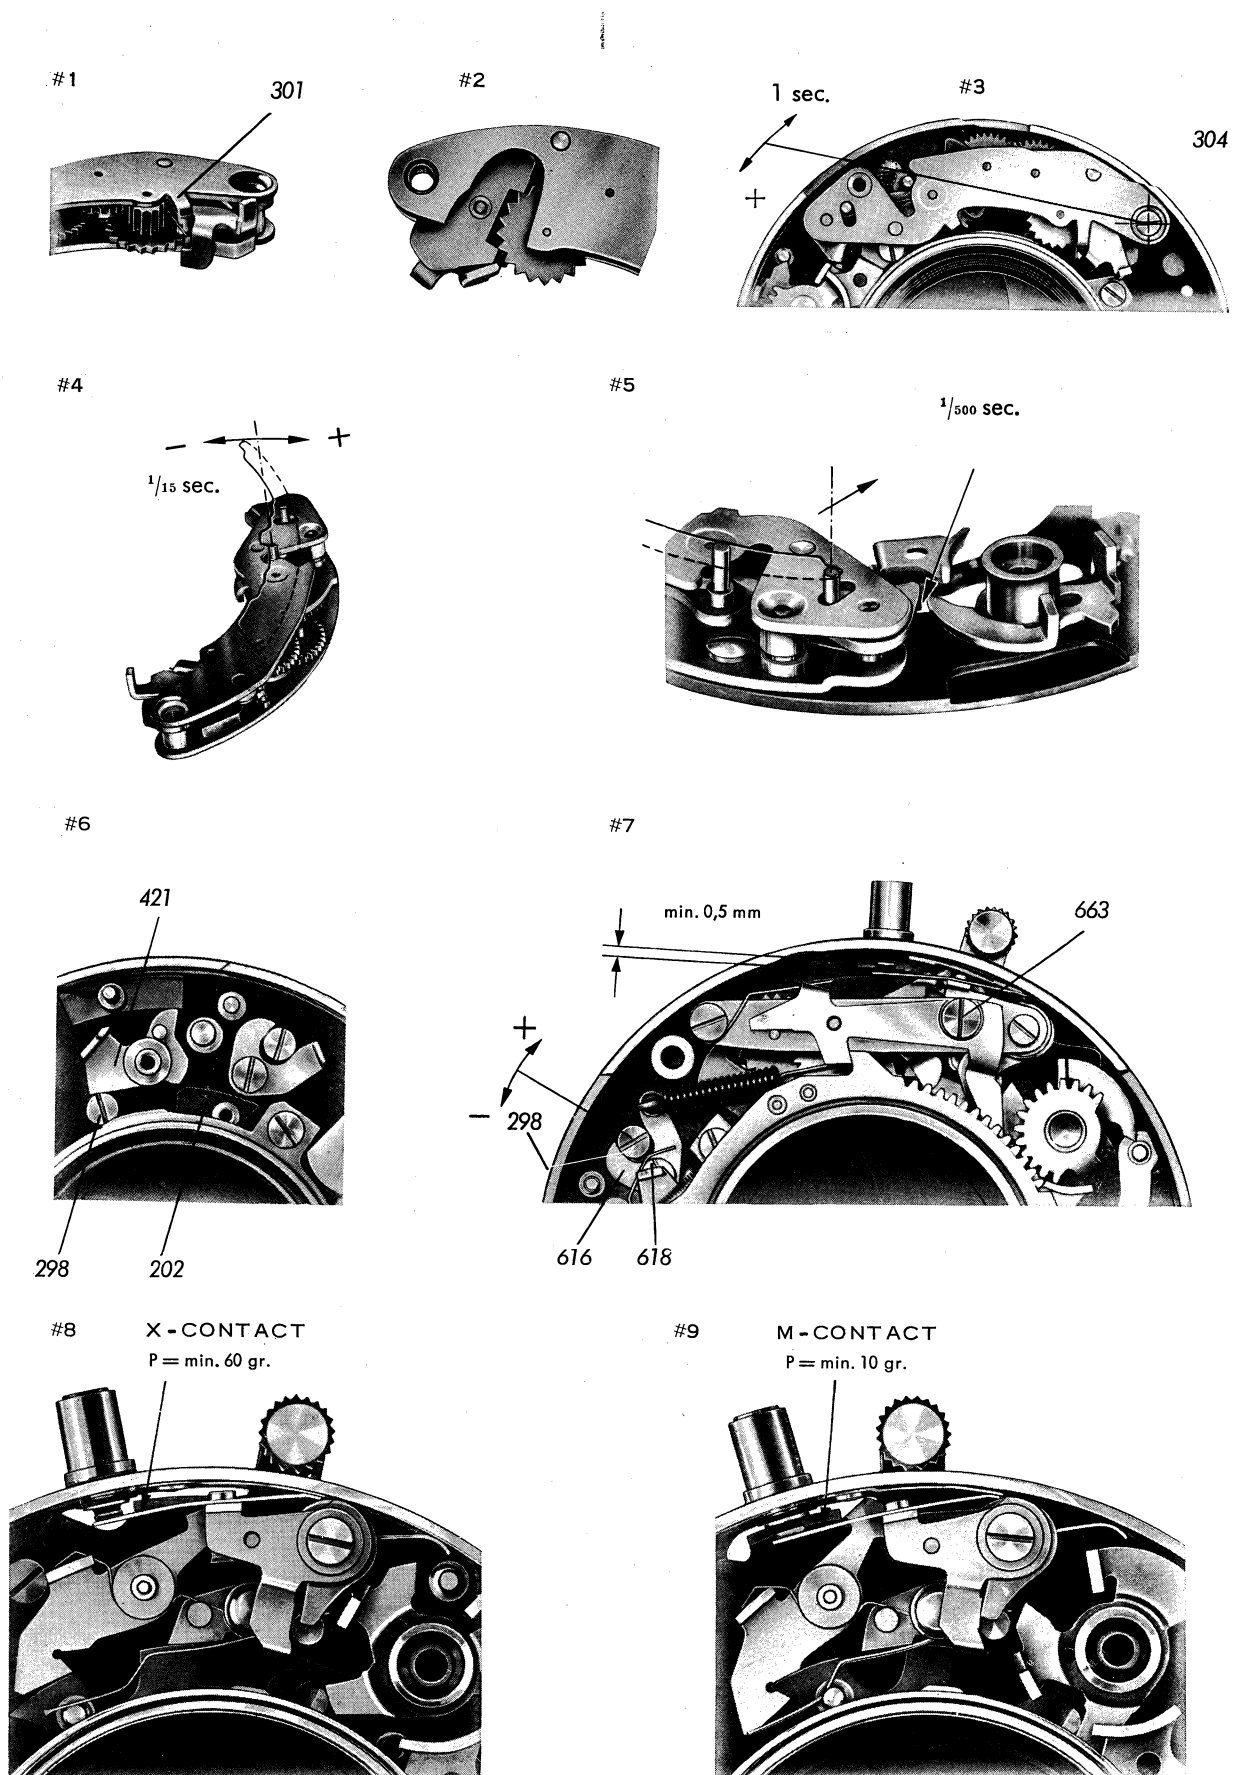

Figure 5-3
- E. ESCAPEMENT 300: The depth of engagement of the escapement lever is factory adjusted so with the lever plate 319 resting against adjusting lug of plate 301, it amounts to $1/2$ to $1/3$ of the height of the tooth. See Figure 5-3, #1 and #2.
1. 1-Second (See Figure 5-3, #3). Back off the two securing screws and pivot the escapement about screw 304 on the lever side (toward the mounting tube for increased exposure time, or toward the periphery of the case for shorter exposure time). Firmly tighten the two securing screws upon completion of adjustment.
2. $1/15$ Second (See Figure 5-3, #4). With cam ring 552 in position, bend the detent pin as required (toward tubular mount for shorter exposure, and toward the periphery of the case for longer exposure).
3. 1/500 Second (See Figure 5-3, #5). The cam ring should render escapement lever 341 inoperative to such an extent that drive 514 can run down without any obstruction. For this purpose, the pin of the check lever should be bent as required.
Stop 298 for the V-detent lever 421 is in the form of an eccentric, thus permitting the play to be adjusted between the V-detent lever and blade ring 202 (Figure 5-3, #6). The play should be such that, with the self-timer out of operation, the blade ring can run down freely; the self-timer, when used, will run for no more than one second after the shutter is released.
The minimum contact gap with the shutter cocked should be 0.5 mm (0.020"). In the case of Synchro-Compur, measure the contact gap in the M position. See Figure 5-3, #7.